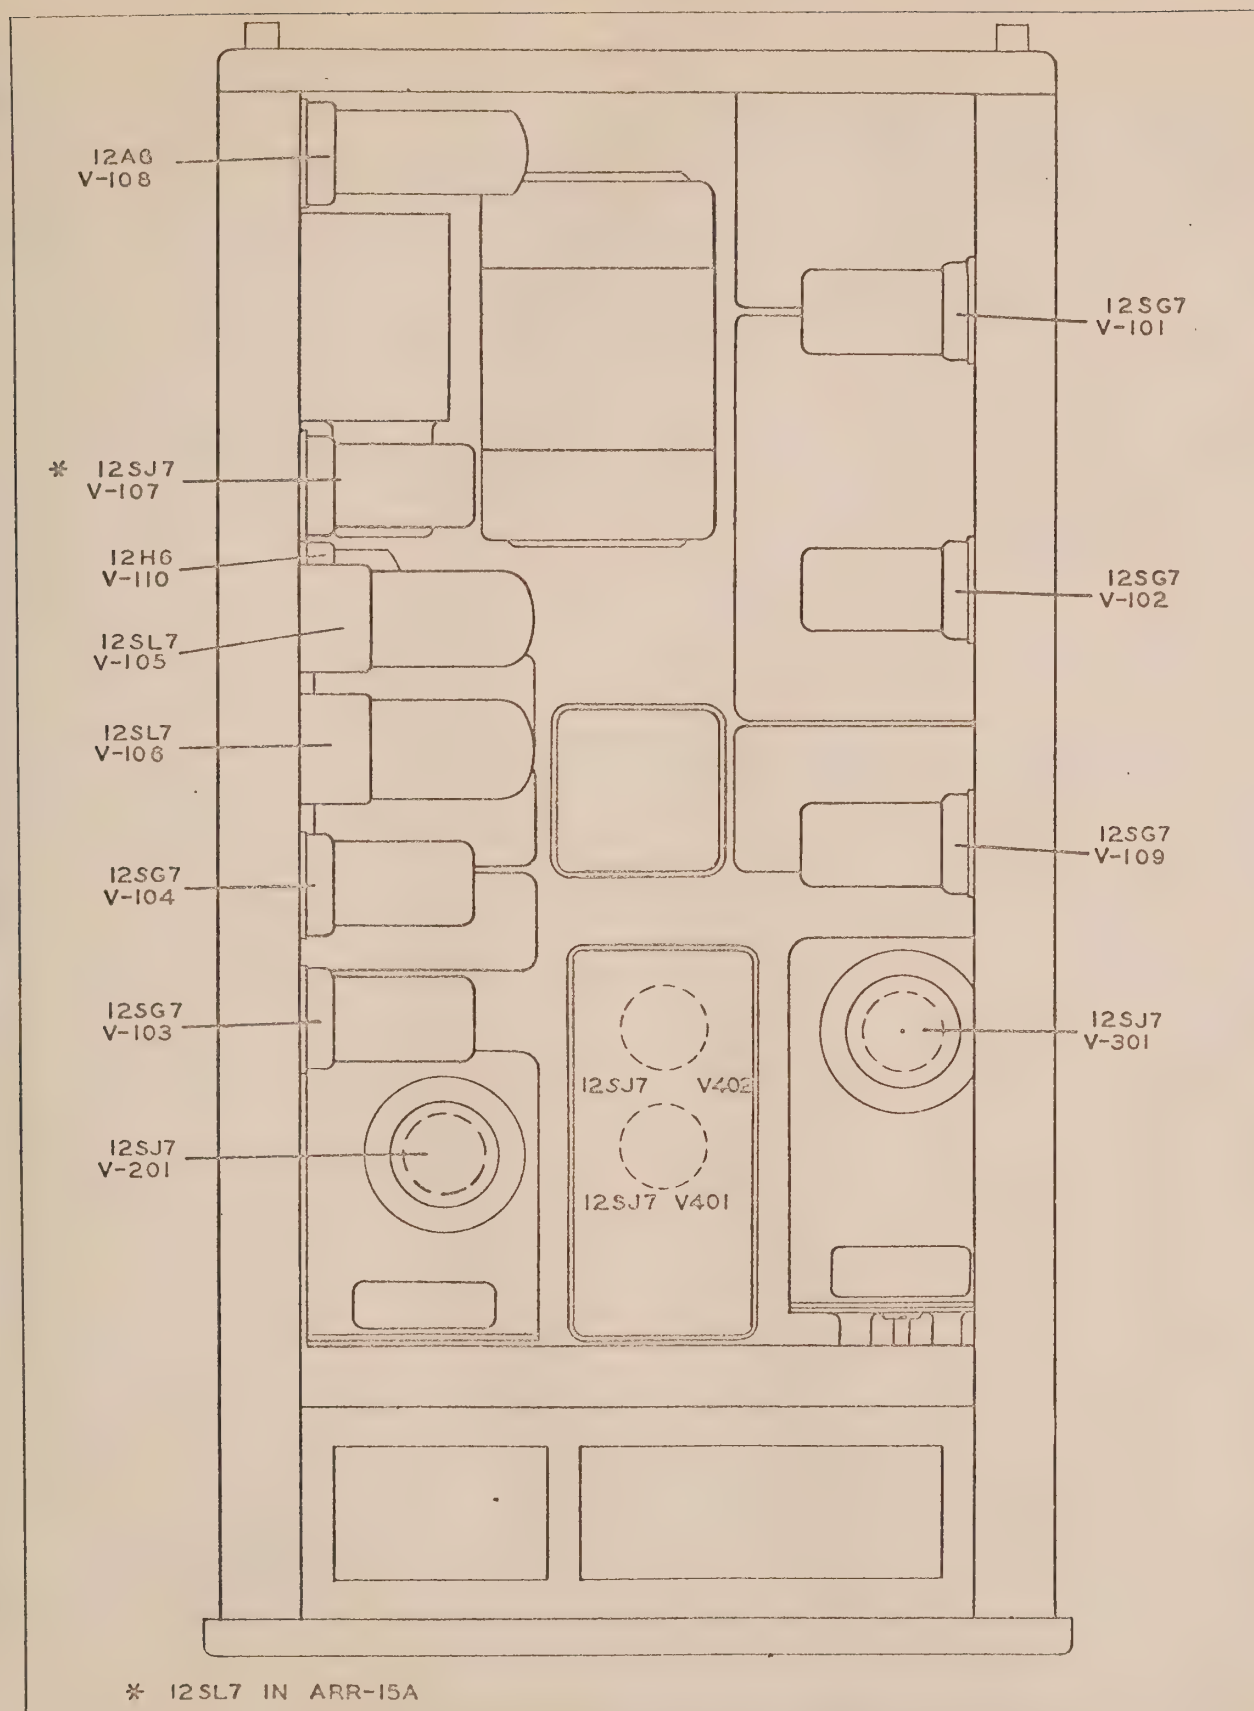

Figure 2-2. Tube Placement Diagram
(2) CHECKING VACUUM TUBES AND PLUG-IN UNITS. — Loosen the receiver unit from the cabinet by disengaging the Dzus fastener that protrudes through the rear of the cabinet. Remove the receiver unit from the cabinet by pulling it forward. With the unit removed from the cabinet check all of the vacuum tubes to be certain that the proper tubes are securely inserted in the sockets. (Refer to figure 2-2 for the location of the tubes.) Make sure that all the plug-in units are firmly fastened.
(3) CHECKING CONTROLS FOR PROPER OPERATION. — Unlock the AUTOTUNE mechanism that operates the BAND switch and TUNING control by rotating each locking key two revolutions in a counterclockwise direction. Check each control by rotating it through the entire range.